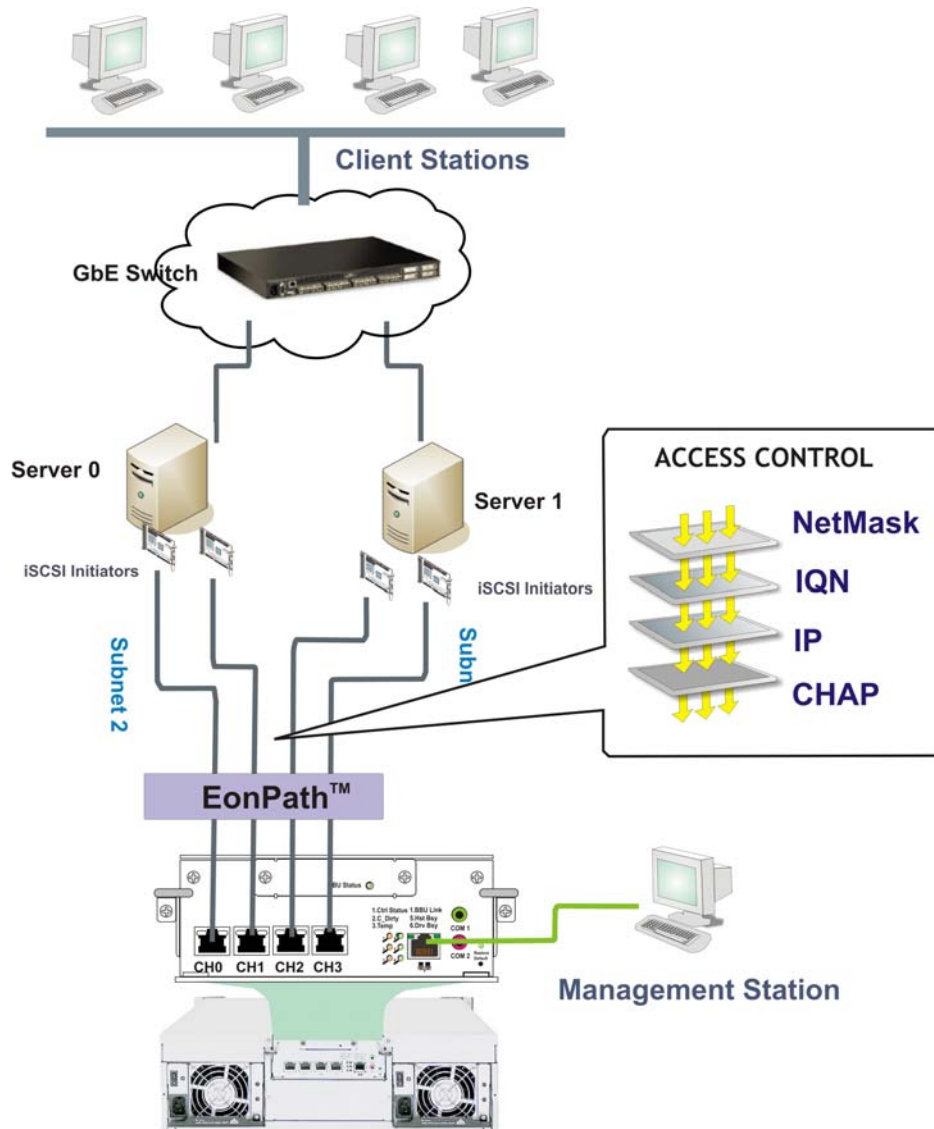

Figure 4-1: Sample Topology: Multiple Servers Each with Dual Connections
In the configuration shown in *Figure 4-1*, one (1) EonStor A16E G2130-4 subsystem is connected to two (2) servers. These servers are equipped with iSCSI HBAs and using the subsystem as the shared storage. Multiple arrays or logical partitions can be created and made available separately through different ID/LUN's on the host ports.